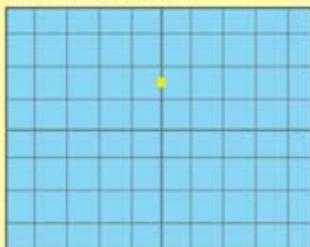

Figure 6.16
- Observe and record the trace displayed on the screen shown in Figure 6.16. Determine the voltage across the dry cell by multiplying the displacement with the value of Y-gain.